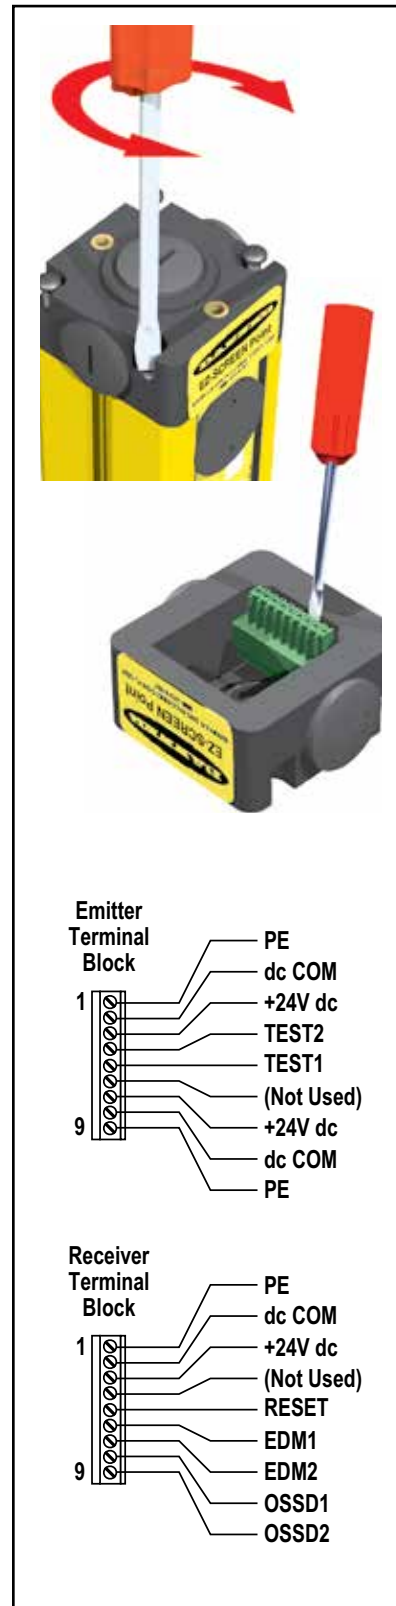

Figure 3-14 Making connections to the sensor terminal blocks
For easy wiring, each EZ-SCREEN sensor has a removable modular terminal block inside one end cap, at the same end as the indicators (See Figure 3-14). To make connections:
4. Route the wires or cabling through the bracket (if necessary) and the wiring chamber end cap. Remove outer cable insulation as necessary (approximately 1" to 2") and strip the individual wire insulation approximately 7 mm (0.25"); make connections to terminals as indicated in Figure 3-14. Torque the terminal screws to 0.22 to 0.25 N m (1.9 to 2.2 in. lb.) recommended torque.